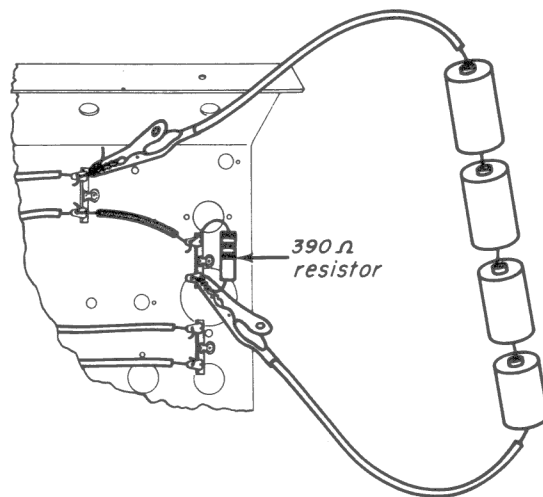

Fig. 14-10
Step 1. Solder the 390-ohm resistor to the lugs of the unused terminal strip on the chassis. Then connect the resistor and the filter choke in series, as shown in Fig. 14-10.